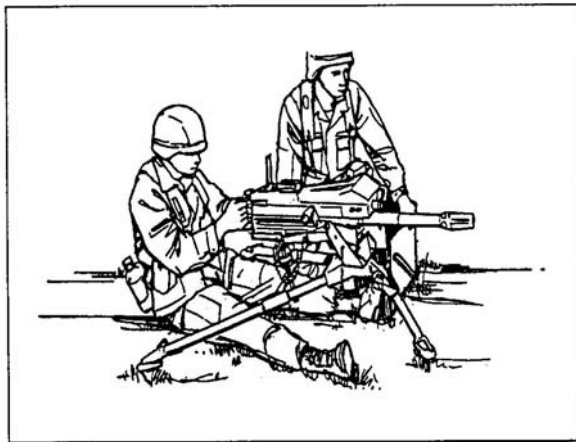

Figure 1. Seated firing position, legs extended.
- (1) Legs extended. Extend your legs under the tripod (Figure 1).
- (3) Legs braced. Extend your legs, brace them on the trail legs of the tripod, and place your elbows on the inside of your thighs for support (Figures 1, 2, and 3).